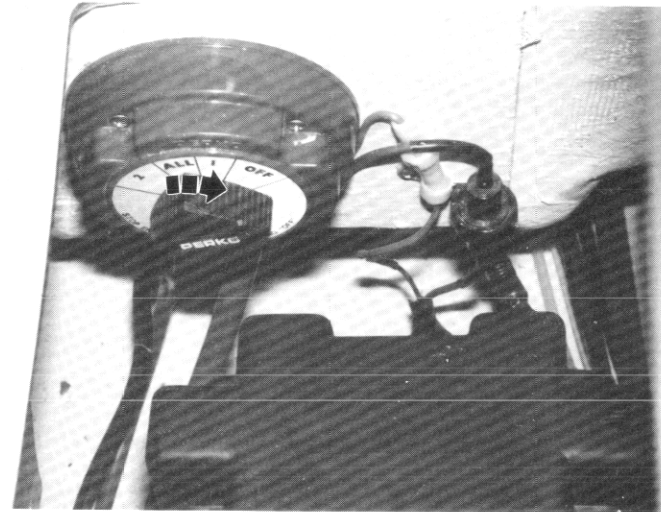

Figure 20
2. Put the battery main switch in the "Off" position. See figure 20.